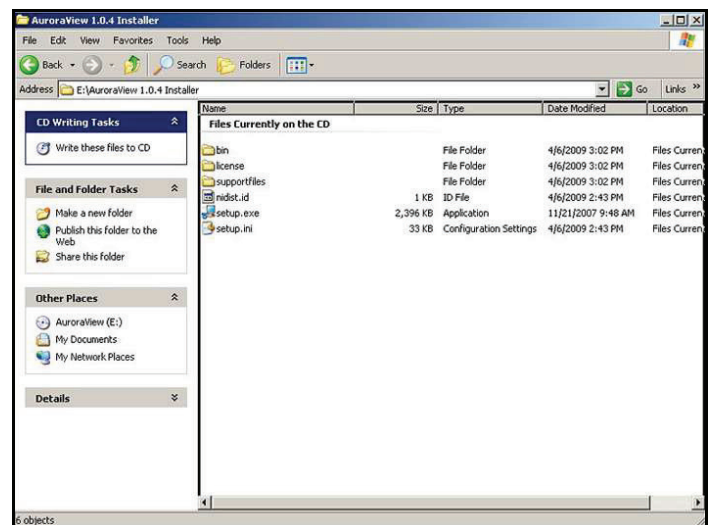

Figure 21: AuroraView installer
3. Browse to the file named "setup.exe" in the root directory of Aurora View (see *Figure 21* below). Double-click the file to start the installation.